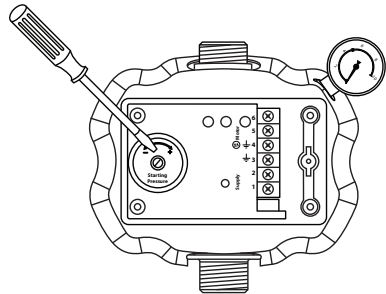

Fig. 6 Start Pressure Adjustment
5. Turn the adjusting slotted head screw clockwise until the pump starts (fig. 6).
3. Turn the adjusting slotted head screw counterclockwise for about 5° (fig. 6).